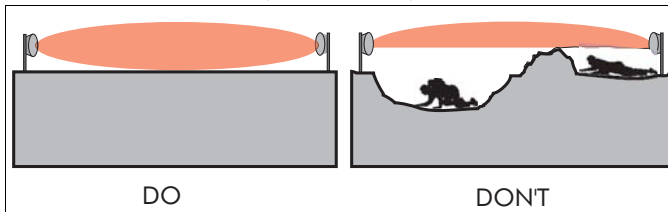

Figure 6: DO's and DON'Ts of installation terrain
- DON'T use bistatic microwave sensors over drainage ditches, hills, or ungraded areas where there is more than a 15 cm (6 in.) change in terrain over the full length of the zone. Microwave detection is not terrain-following (see Figure 6).